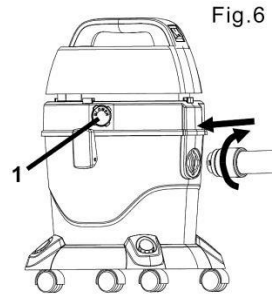

Fig.6
**Step 6:** Insert the hose insert into the barrel (for vacuuming function) or in the “blower” hole (1) located in the main body (for blower function). Gently rotate to the right to lock the hose in place and make sure it fits tightly (Fig. 6).